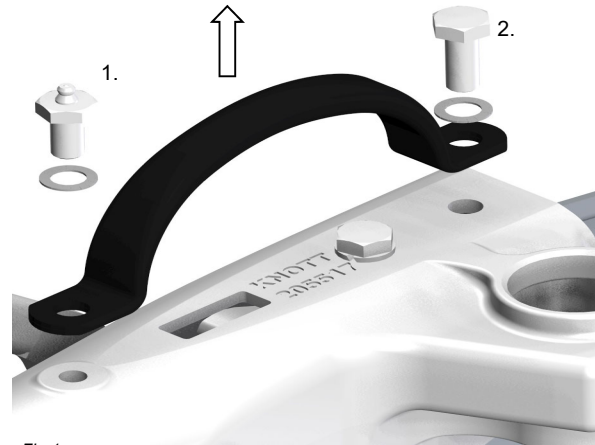

Fig.1
- For KFG20, KFG27, KFG30 couplings it will be necessary to remove the grab handle completely, remove bolts 1 & 2 (Fig.1), Retain all parts.